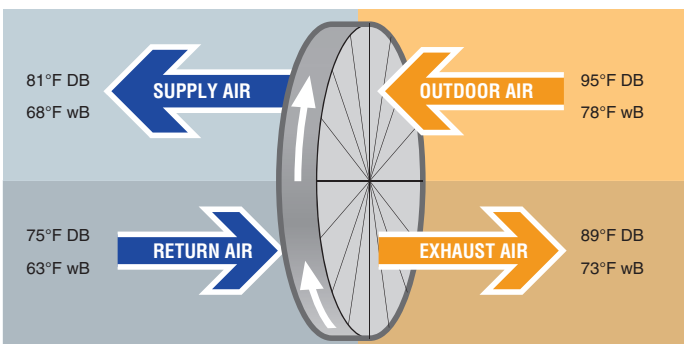

Figure 3. Desiccant wheel dries the incoming OA with the exhaust stream
- DOAS are designed specifically to handle the moisture (latent load) in the OA. Some DOAS systems include mechanical dehumidification, while others rely on a heat (and moisture) exchanger core and still others rely on a desiccant wheel (Figure 3) to remove OA moisture with the dryness of the exhaust air leaving the building.